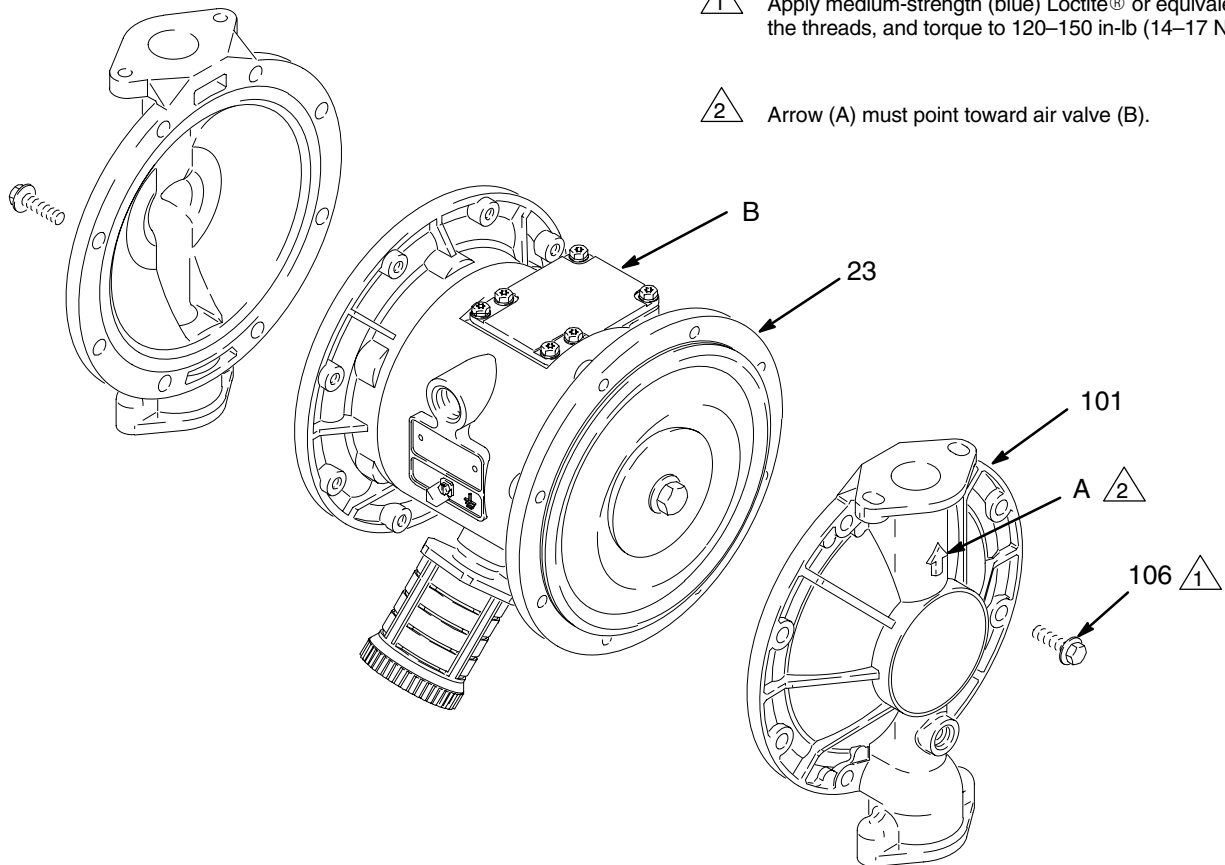
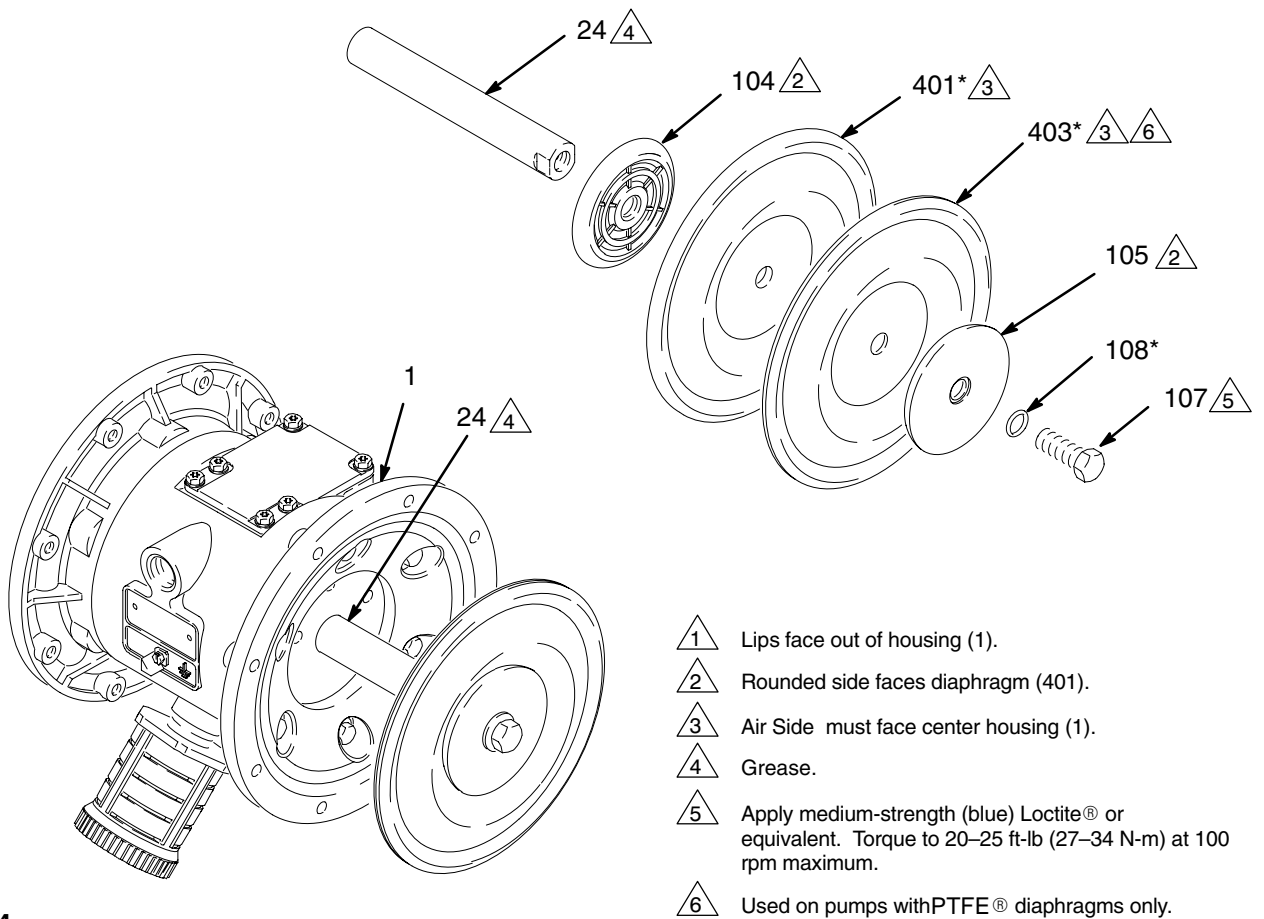
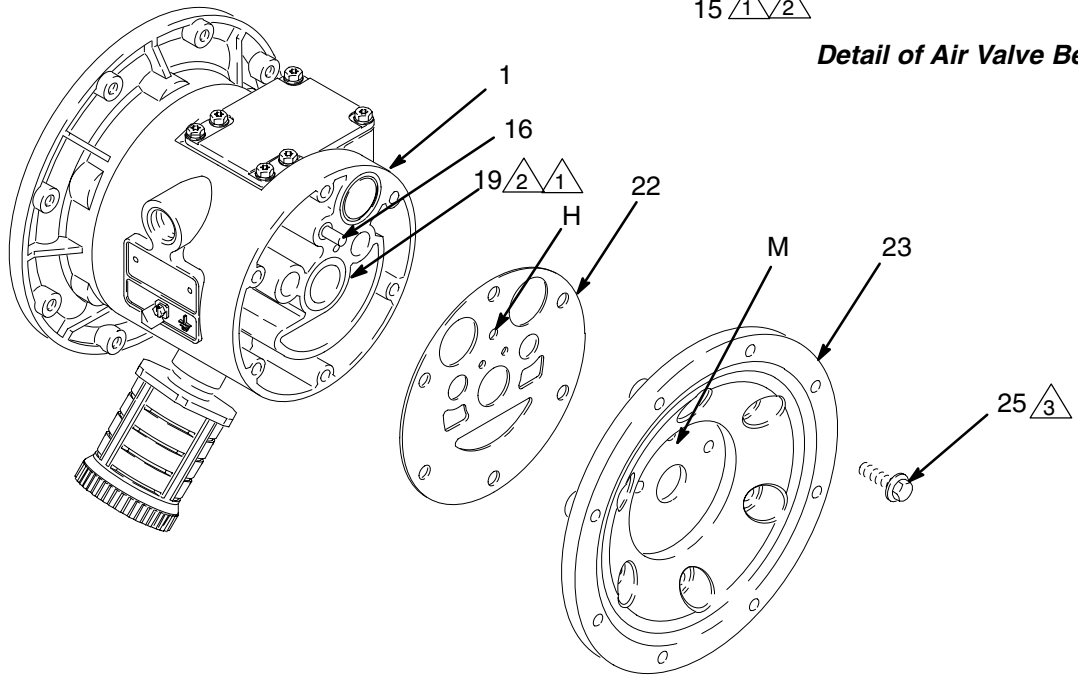

Fig. 13
Fig. 14
Fig. 15
3. Using a 10 mm socket wrench, remove the screws (106) holding the fluid covers (101) to the air covers (23). Pull the fluid covers (101) off the pump. See Fig. 13.
4. Loosen but do not remove the diaphragm shaft bolts (107), using a 15 mm socket wrench (1" on stainless steel models) on both bolts.
5. Unscrew one bolt from the diaphragm shaft (24) and remove the o-ring (108), fluid side diaphragm plate (105), PTFE[®] diaphragm (403, *used on PTFE[®] models only*), diaphragm (401), and air side diaphragm plate (104). See Fig. 14.
6. Pull the other diaphragm assembly and the diaphragm shaft (24) out of the center housing (1). Hold the shaft flats with a 19 mm socket wrench, and remove the bolt (107) from the shaft. Disassemble the remaining diaphragm assembly.
7. Inspect the diaphragm shaft (24) for wear or scratches. If it is damaged, inspect the bearings (19) in place. If the bearings are damaged, refer to page 22.
8. Reach into the center housing (1) with an o-ring pick and hook the u-cup packings (402), then pull them out of the housing. This can be done with the bearings (19) in place.
1. Install the shaft u-cup packings (402*) so the lips face **out** of the housing (1). Lubricate the packings. See Fig. 14.
2. Install the diaphragm assembly on one end of the shaft (24) as follows:
- a. Install the o-ring (108*) on the shaft bolt (107).
- b. Install the fluid side diaphragm plate (105) on the bolt so the rounded side faces the diaphragm (401).
- NOTE:** *On stainless steel pumps only*, the fluid side diaphragm plate (105) is stainless steel. This plate **is not** stamped with its part number. Be sure to install this plate on the fluid side of the diaphragm.
- c. *On PTFE[®] models only*, install the PTFE[®] diaphragm (403*). Make certain the side marked AIR SIDE faces the center housing (1).
- d. Install the diaphragm (401*) on the bolt. Make certain the side marked AIR SIDE faces the center housing (1).
- e. Install the air side diaphragm plate (104) so the rounded side faces the diaphragm (401). This plate is used on all models, and is stamped with its part number.
- f. Apply medium-strength (blue) Loctite[®] or equivalent to the bolt (107) threads. Screw the bolt into the shaft (24) hand tight.
3. Grease the length and ends of the diaphragm shaft (24), and slide it through the housing (1).
5. Hold one shaft bolt (107) with a wrench and torque the other bolt to 20–25 ft-lb (27–34 N.m) at 100 rpm maximum.
6. Align the fluid covers (101) and the center housing (1) so the arrows (A) on the covers face the same direction as the air valve (B). Apply medium-strength (blue) Loctite[®] or equivalent to the threads of the screws (106). Secure the covers with the screws handtight. See Fig. 13. Using a 10 mm socket wrench, torque the screws oppositely and evenly to 120–150 in-lb (14–17 N.m).
- NOTE:** If you are removing only the diaphragm shaft bearing (19), skip step 4.
5. Using a 10 mm socket wrench, remove the screws (25) holding the air covers (23) to the center housing (1). See Fig. 15.
6. Remove the air cover gaskets (22). Always replace the gaskets with new ones.
7. Use a bearing puller to remove the diaphragm shaft bearings (19), air valve bearings (12) or pilot pin bearings (15). Do not remove undamaged bearings.
8. If you removed the diaphragm shaft bearings (19) reach into the center housing (1) with an o-ring pick and hook the u-cup packings (402), then pull them out of the housing. Inspect the packings. See Fig. 14.
1. If removed, install the shaft u-cup packings (402*) so the lips face **out** of the housing (1).
2. The bearings (12, 15, and 19) are tapered and can only be installed one way. Insert the bearings into the center housing (1), **tapered end first**. Using a press or a block and rubber mallet, press-fit the bearing so it is flush with the surface of the center housing.
4. Align the new air cover gasket (22) so the pilot pin (16) protruding from the center housing (1) fits through the proper hole (H) in the gasket.
5. Align the air cover (23) so the pilot pin (16) fits in the middle hole (M) of the three small holes near the center of the cover. Install the screws (25), handtight. Apply medium-strength (blue) Loctite® or equivalent to the threads of the screws (25). See Fig. 15. Using a 10 mm socket wrench, torque the screws oppositely and evenly to 130–150 in-lb (15–17 N.m).